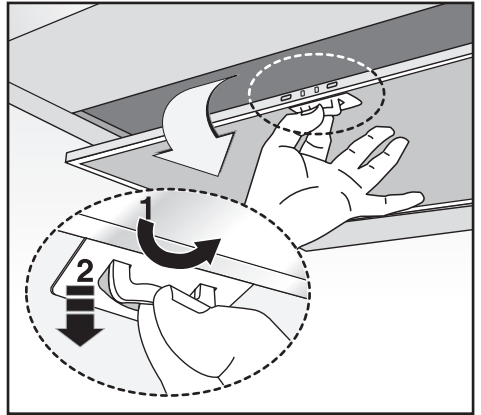

Fig.7
- The minimum distance between the support surfaces of the cooking pots on the cooker top and the lowest part of the cooker hood must be at least **65 cm**. If a connection tube composed of two parts is used, the upper part must be placed outside the lower part. Do not connect the cooker hood exhaust to the same conductor used to circulate hot air or for evacuating fumes from other appliances generated by other than an electrical source. Before proceeding with the assembly operations, remove the anti-grease filter(s) (Fig.7) so that the unit is easier to handle.